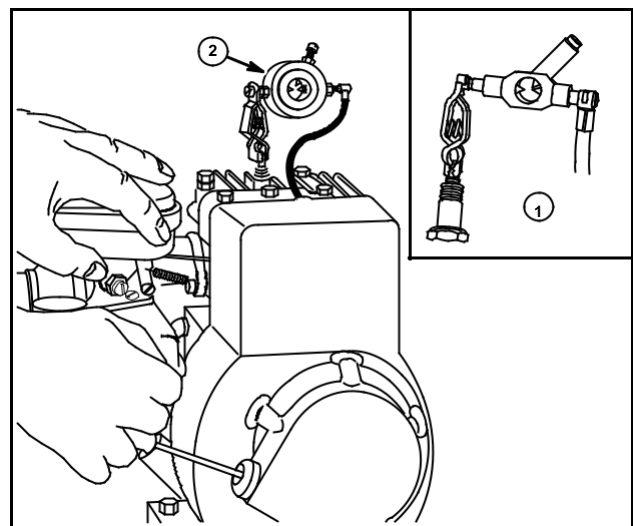

Fig. 3
1. Place Spark Tester tool #19051 (2) or 19368 (1), in series with engine's spark plug and spark plug wire, Fig. 3.